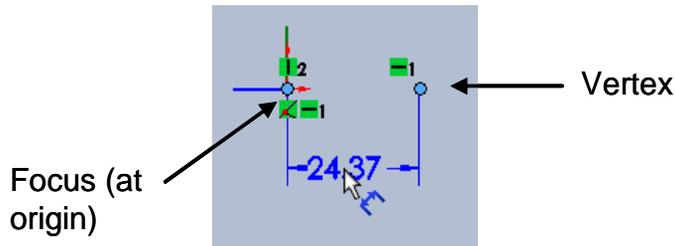

Figure 23 Vertex location
- 24 Press and hold the Shift key, and click the point to indicate the vertex location. The current length dimension is indicated in the graphic pane, which may vary from the figure. See Figure 23.